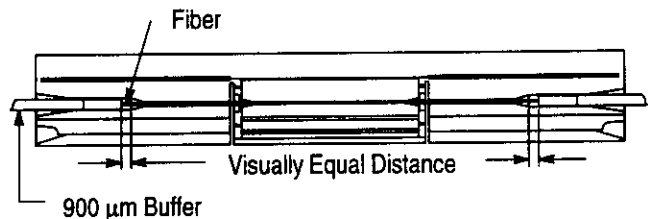
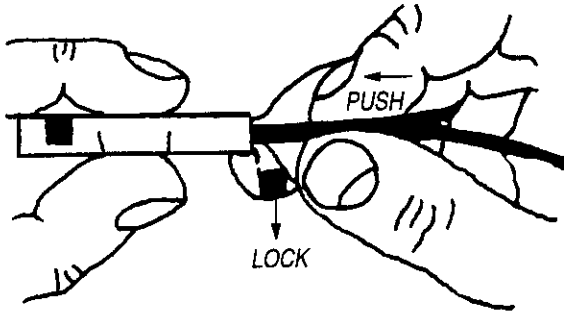

Figure 2
Figure 3
4. Align each fiber with the entry port nearest the center of each end face. Insert the fiber slowly, making sure it travels smoothly through the channel into the center element. A 250- μ m fiber's coating will stop at the edge of the aluminum element, whereas a 900- μ m fiber's buffer will stop at the end of the wide part of the channel. Slide the fibers left or right and visually check that both gaps between the buffer and the aluminum element are equal. See Figure 2.
5. While applying gentle, inward pressure with the thumb and forefinger, gently rotate the key handle, turning it 90° as shown in Figure 3 (do NOT snap it closed). This locks the first fiber in place. Inspect the fiber to make sure it remained in the channel during locking.
- Added new Figure 2, renumbered Figure 3